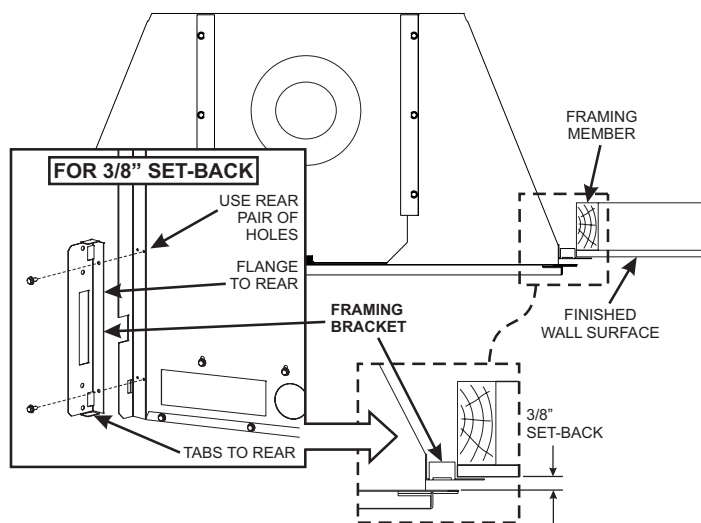
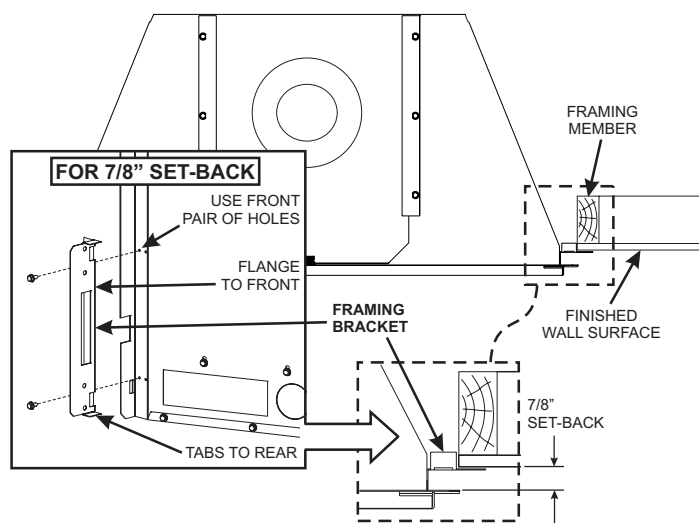

Figure 9a
Figure 9b
4. Install the side Framing brackets (1 per side) using the pilot holes provided behind the side flanges on the fireplace outer wrap. Two setback locations are provided for locating the framing brackets depending on which decorative surround is to be installed. See Figures 9a and 9b. The pilot holes in the forward position should be used if installing the fireplace after the finished wall surface is present. The rearward hole position should be used to install the fireplace directly to the framed opening, prior to installing the finish wall surface. The framing bracket locations are based on using 1/2" thick surface finishing materials over the framing. See Figure 9.
Note: Use Figure 9a to locate the nailing flanges if installing a DS(25,33)66BL surround accessory. Use Figure 9b to locate the nailing flanges if installing a DF(25,33)M4 series surround accessory.